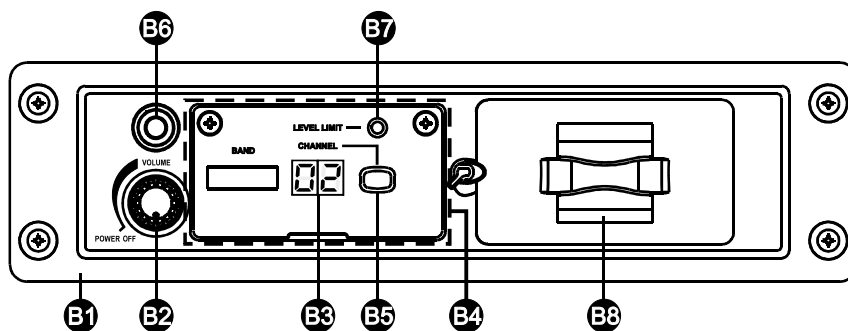

Fig. 15
(A) MTM-92 Wireless Interlinking Transmitter Part Names, Fig. 15: